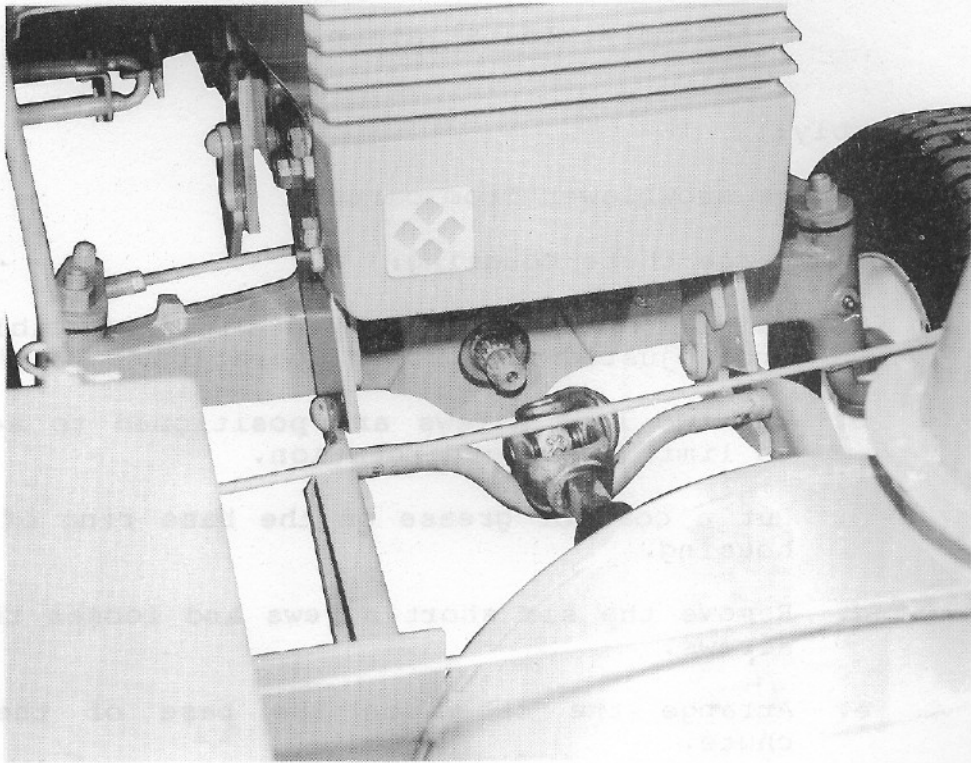

FIGURE 6
3. Guide the snowblower just into the latch plates. See Figure 6.